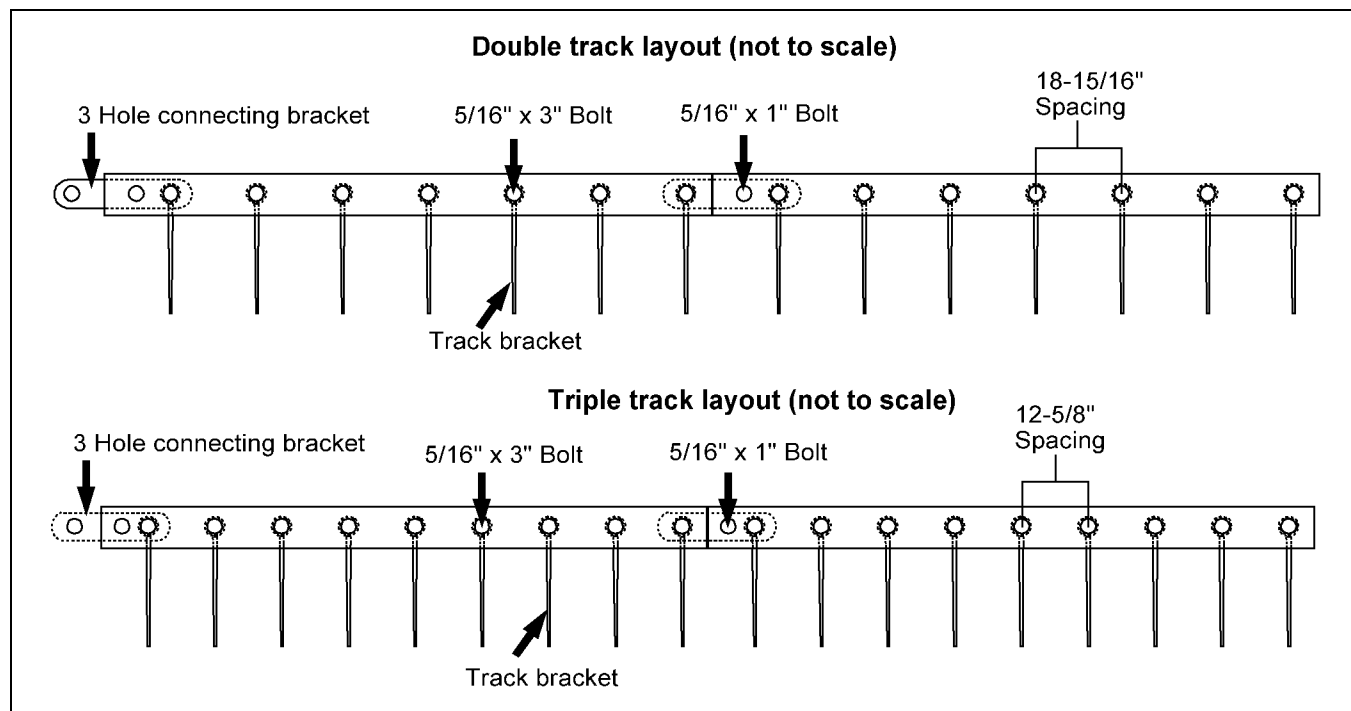

Figure 4A
9. Are augers 3" (for bins up to 30') or 4" (for bins 33' and larger) off the drying floor at bin wall? (See Figure 4AT on Page 40.)
NOTE: The wall track has two (2) different hole spacings: 18-15/16" on the double auger units and 12-5/8" on the triple auger units. (See Figure 4A.)